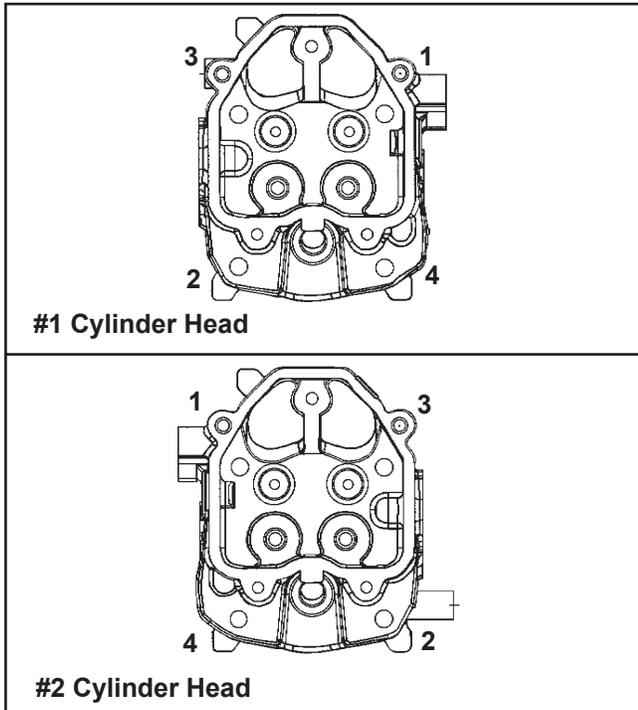

Figure 11-36. Cylinder Head Torque Sequence.
6. Torque the four hex flange nuts in two steps, first to **16.9 N·m (150 in. lb.)** and then to **33.9 N·m (300 in. lb.)**, using the torque sequence shown in Figure 11-36.